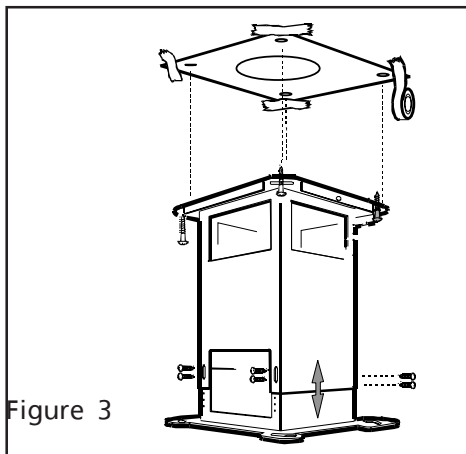

Figure 3
3. Remove and save template. Cut and remove ceiling drywall. Install suitable length 2" x 4" lumber between joists to provide chimney mounting points as shown in Fig. 4 and 5. Use template for dimensions and required clearance. Make sure to affix the added lumber firmly and level. Consult a professional if you have difficulties or your installation is unique. Consult template and Figures 3, 4, 5.
13. **To install Chimney Structure** to ceiling, use a 10mm or adjustable wrench or flat head screwdriver. Drill pilot holes into ceiling. Attach mounting structure to joists with the 4 lag screws provided. (Keep 1/2" conduit inside structure.) See Figure 3.